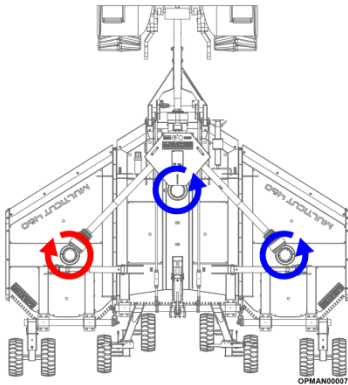

Figure 1.8
In order to create a consistent and quality cut and through-flow of material through and out of the machine, Multicut machines have anti-clockwise and clockwise rotating rotors which are in turn fitted with left-hand (LH) and right-hand (RH) blades. The rotation direction of each of the rotors is stated in Figure 1.8 for the Multicut 460/460 Proline and Figure 1.9 for the Multicut 620/820.